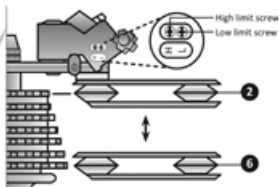

Figure 2
- ② Adjust the high limit screw (H) so the guide pulley and the smallest sprocket are lined up. Figure 2
- ③ Reconnect the cable, pull out any slack, and retighten the anchor bolt securely.
- ④ Shift through the gears, making sure each gear achieved is done quietly and without hesitation. If necessary, use the barrel adjuster to fine tune each gear by turning it in the direction you want the chain to go. For example, turning clockwise will loosen the cable tension and move the chain away from the wheel, while turning counter-clockwise will tighten cable tension and direct the chain towards the wheel.
- ⑤ Shift the rear shifter to the gear one and place the chain on the largest cog.
- ⑥ Adjust the low limit screw (L) in quarter turn increments until the guide pulley and the largest cog are aligned vertically.
- ⑦ Again, shift through each gear several times, checking that each gear is achieved smoothly. It may take several attempts before the rear derailleur and cable is adjusted properly.